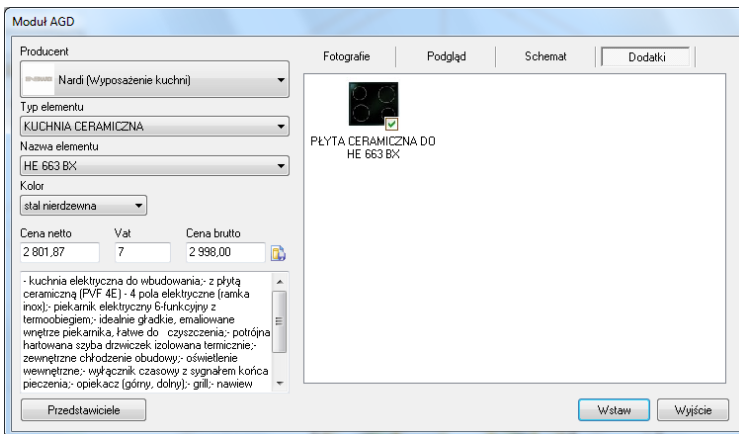

Fig. 248 – additions for a particular model
- additions (optional) — can be inserted after selection together with the household equipment (Fig. 248).